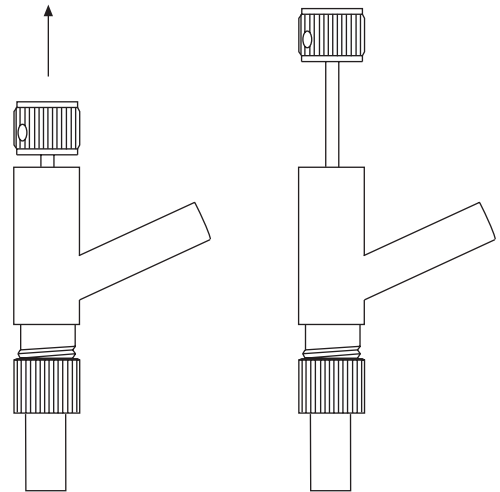

Figure 88. Opening the Camera to the Vacuum System
4. After a reasonable vacuum level is reached (~20 mTorr), turn the top knob of the Vacuum Connector clockwise a few turns. While holding the body of the connector, pull up on the top knurled knob until it stops (see Figure 88). This opens the camera to the vacuum system, and a change in vacuum pressure in the system should be observed.